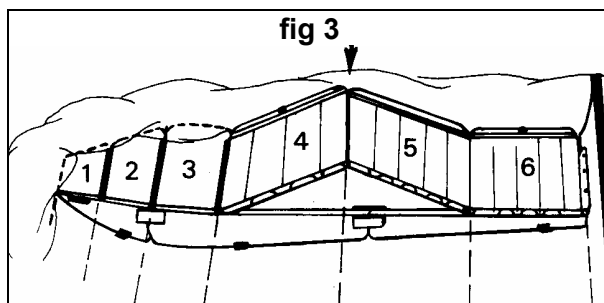

fig 4
2. **Fit** the stringers between the two buffers of sections 4 and 6 [fig. 4 - 7].